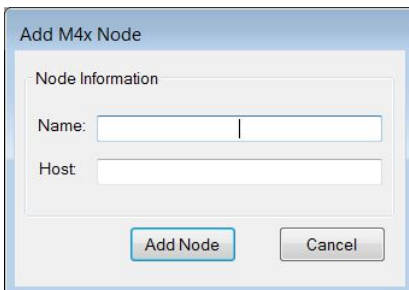

Figure 17: Adding an M4x Node
3. A prompt will appear asking for Node Information: Name and IP Address (Host) of the remotely connected M4x Blade as shown in Figure 17.